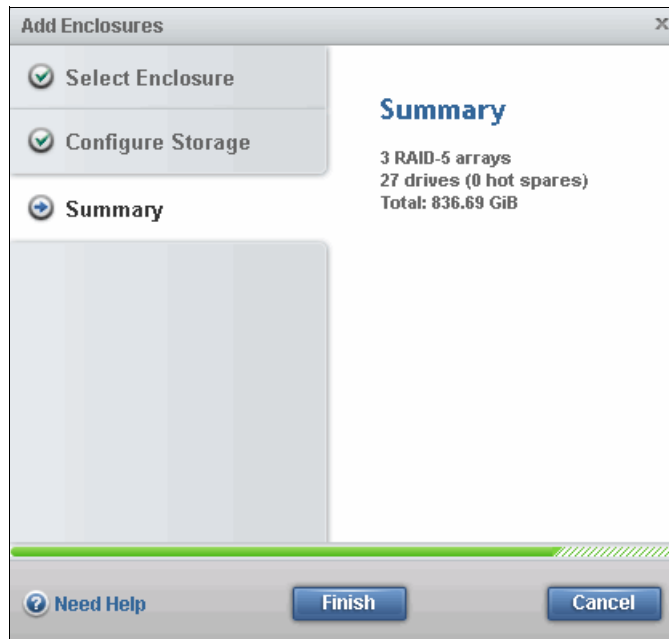

Figure 2-41 Add Enclosures Summary
10. As shown in Figure 2-41, the wizard shows the internal storage presets. Click **Cancel** if you do not want to continue with the configuration shown, or click **Finish** and the IBM Storwize V3700 GUI creates the arrays shown in the Summary.